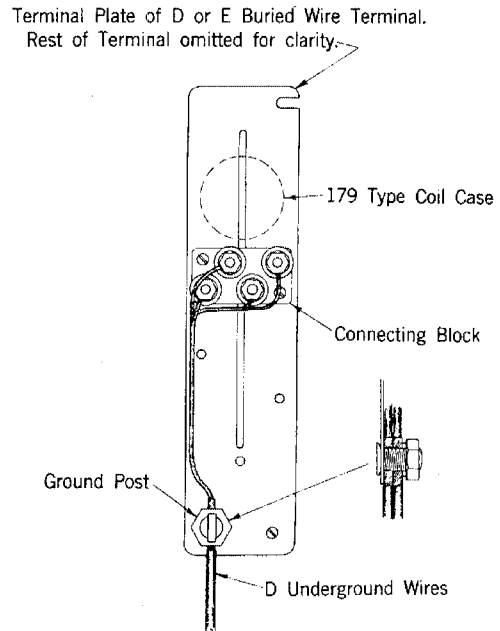

Fig. 9 – Wiring with One Connecting Block
- (d) Connect the conductors to the proper binding posts of the connecting blocks as shown in Figs. 9 and 10.